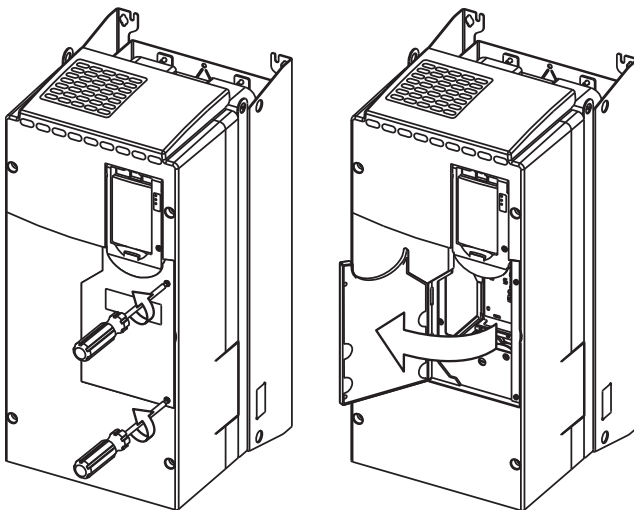

Fig. 17 — Open Access Door
1. Using recommended screwdriver = 6.4 mm (0.25 in.) flat or T20 star, open access door. See Fig. 17.
1. Disconnect power to the drive. Before removing the enclosure, open the access door on the front of the drive. See Fig. 17.